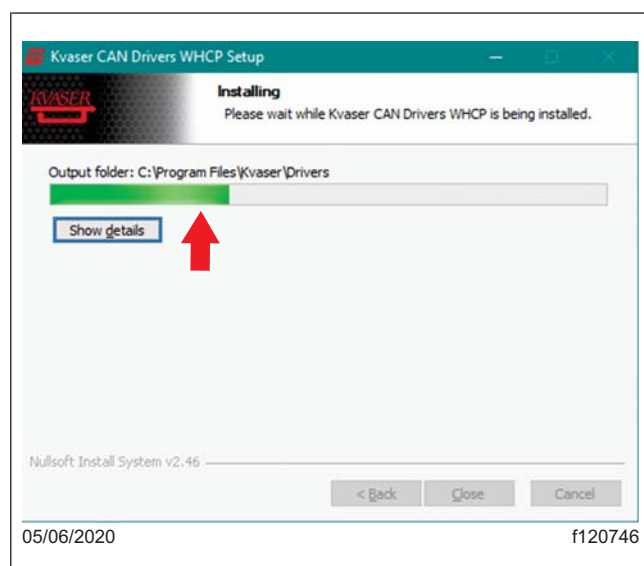

Fig. 13, Kvaser Installation Progress Bar
16. A bar shows the progress of the Kvaser installation. See Fig. 13.